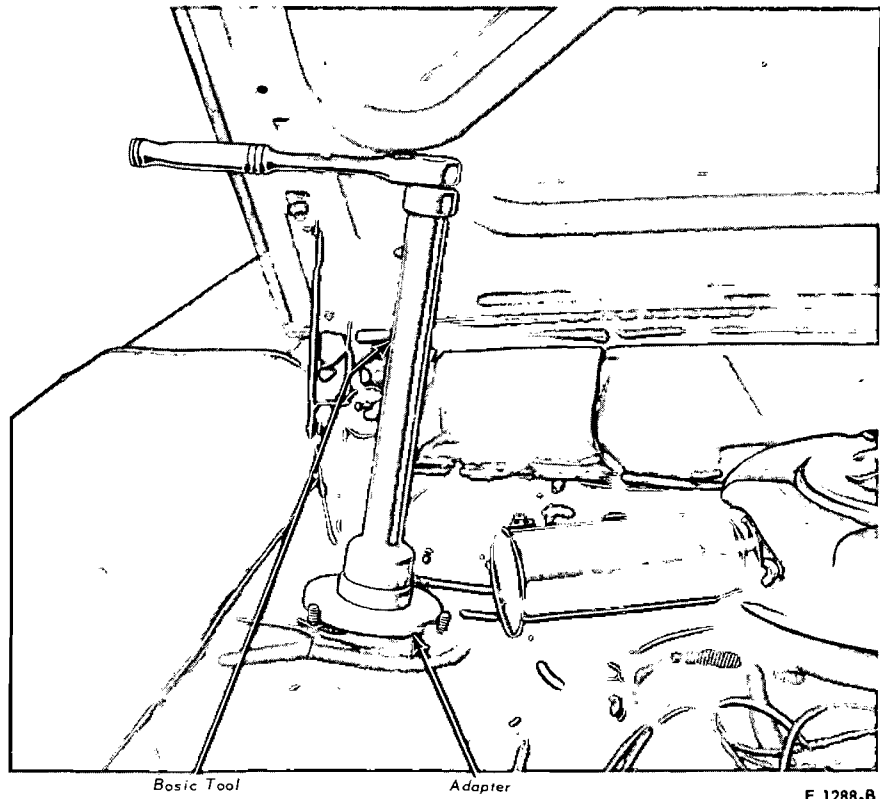

FIG. 9—Spring Compressor Tool Installed—Upper View—Typical
5. Install the spring compressor tool (see Fig. 8), as shown in Fig. 9.